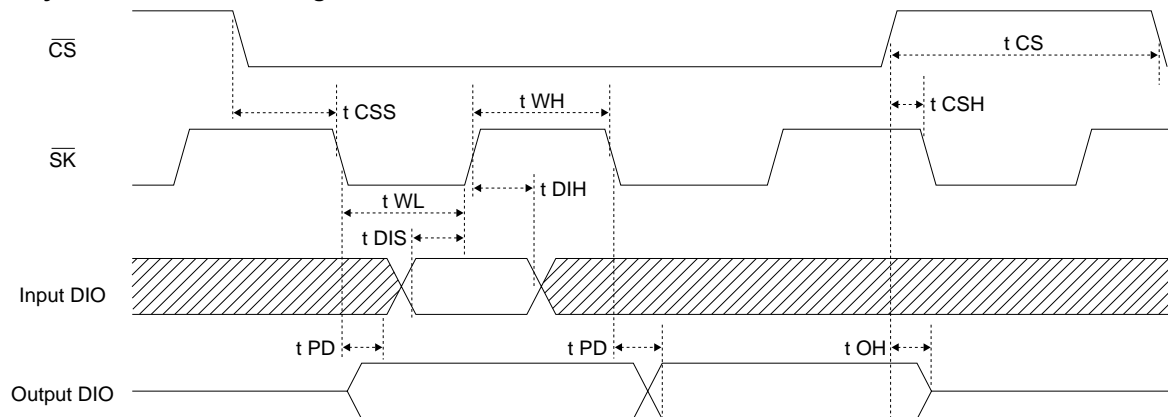

Fig.10 Synchronous data I/O timing
- 1) When the Wiper Counter Data Output (WCR) command is received, seven bits of the data at the current wiper position are output to D8, D9, D10, ..., D14, in sequential order. If a clock of longer than 24 clocks is input, indefinite data may be output. (For the DIO output, the data may change at the tPD0 and tPD1 time delays, in response to the internal circuit delay starting from the falling edge of the SK signal. During the tPD0 and tPD1 time intervals, data should be loaded after the tPD time has been assured, in case the previous data is indefinite. Refer to Fig.10, Synchronous data I/O timing.)